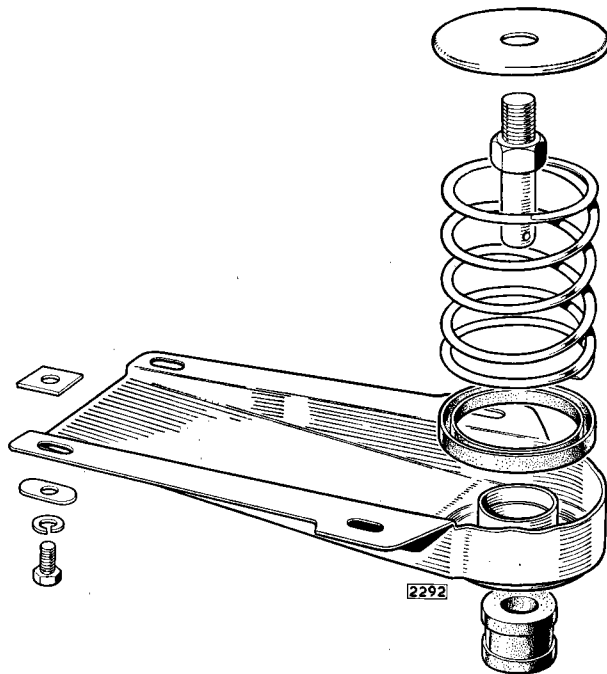

Fig. 66. The rear engine mounting
1. Screw the lower flanged washer (D, Fig. 66) up the stabiliser pin until the flange contacts the bottom of the stabiliser rubber mounting (C). The washer is slotted on its upper face and can be screwed up the pin by engaging a thin bladed screwdriver in the slot through the centre hole of the rubber mounting.
2. Fit the upper flanged washer (B) and tighten down with the self-locking nut (A).